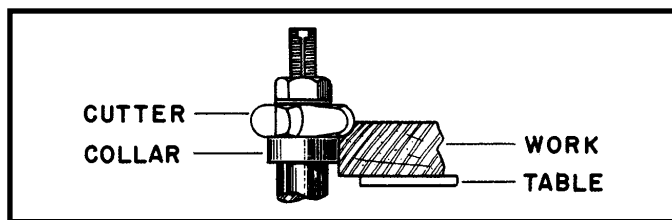

Fig. 31
2. When the collar is used below the cutter (Fig. 31), the operator can see the progress of the cut. **NOTE:** Any accidental lifting of the work will gouge the wood and ruin the workpiece.